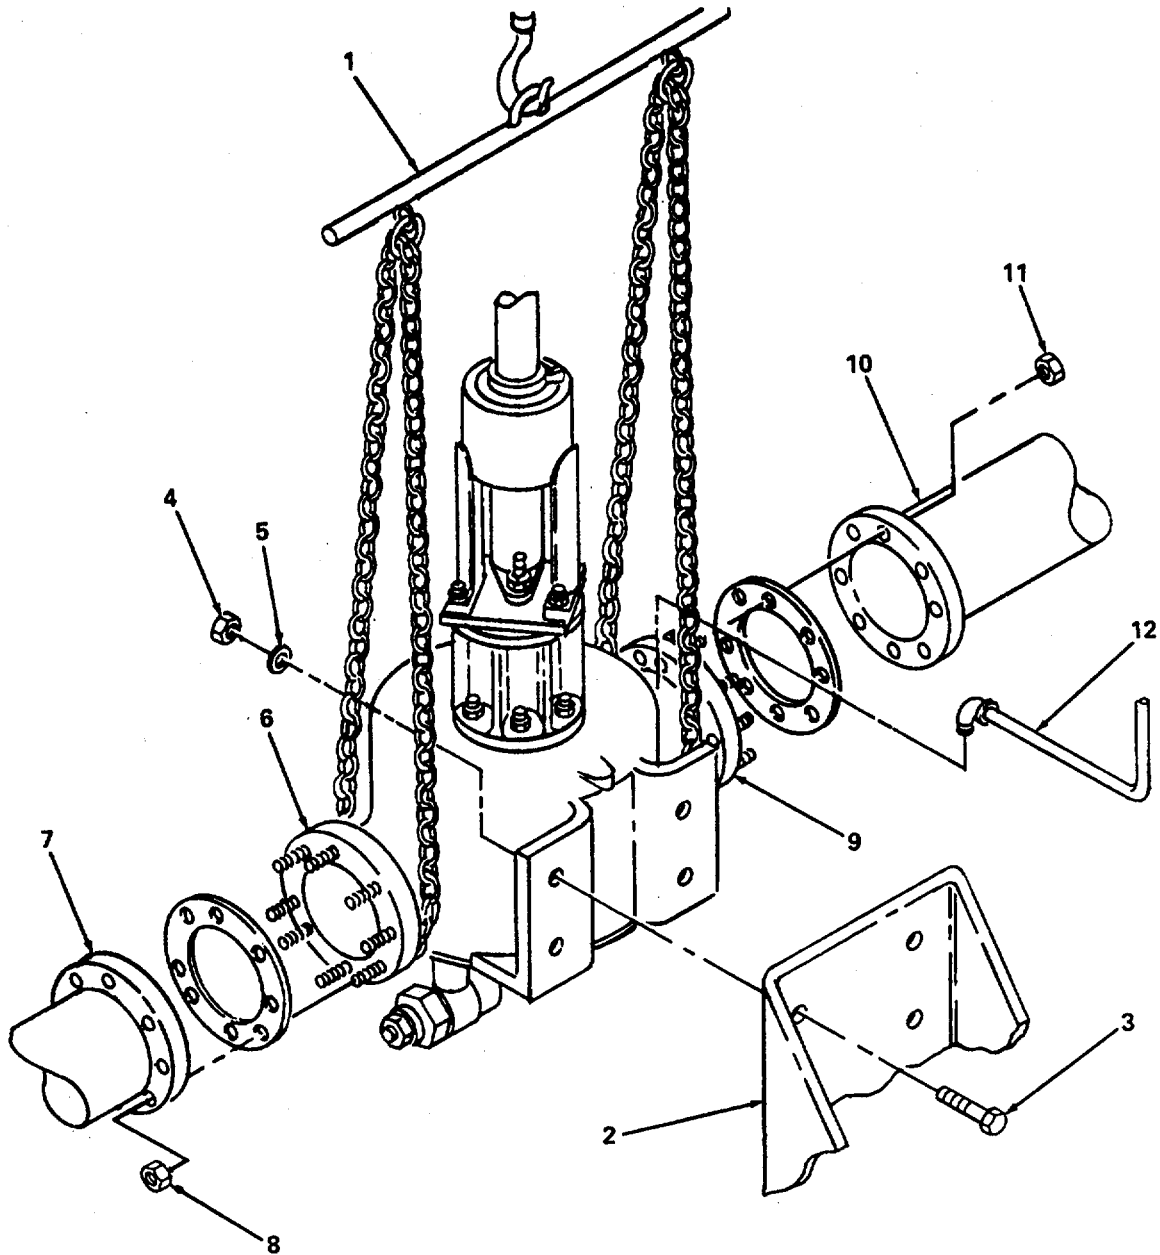

Figure 5-18. Cargo Transfer Pump Installation.
- (a) Position lifting sling (1, figure 5-18) and guide ropes on pump, lift and lower pump into aft rake compartment.
- (b) Position pump on mounting (2) and install four screws (3), four nuts (4), four washers (5) and any shims saved during pump removal.